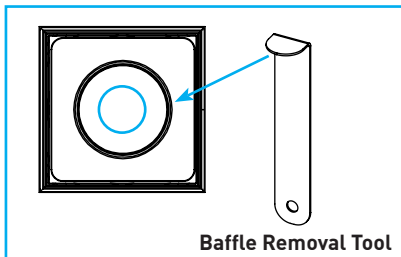

Fig.20
- Using baffle removal tool, carefully place edge of tool on inner most aperture rim and gently pull down until baffle is released from housing. *(Fig.20)*